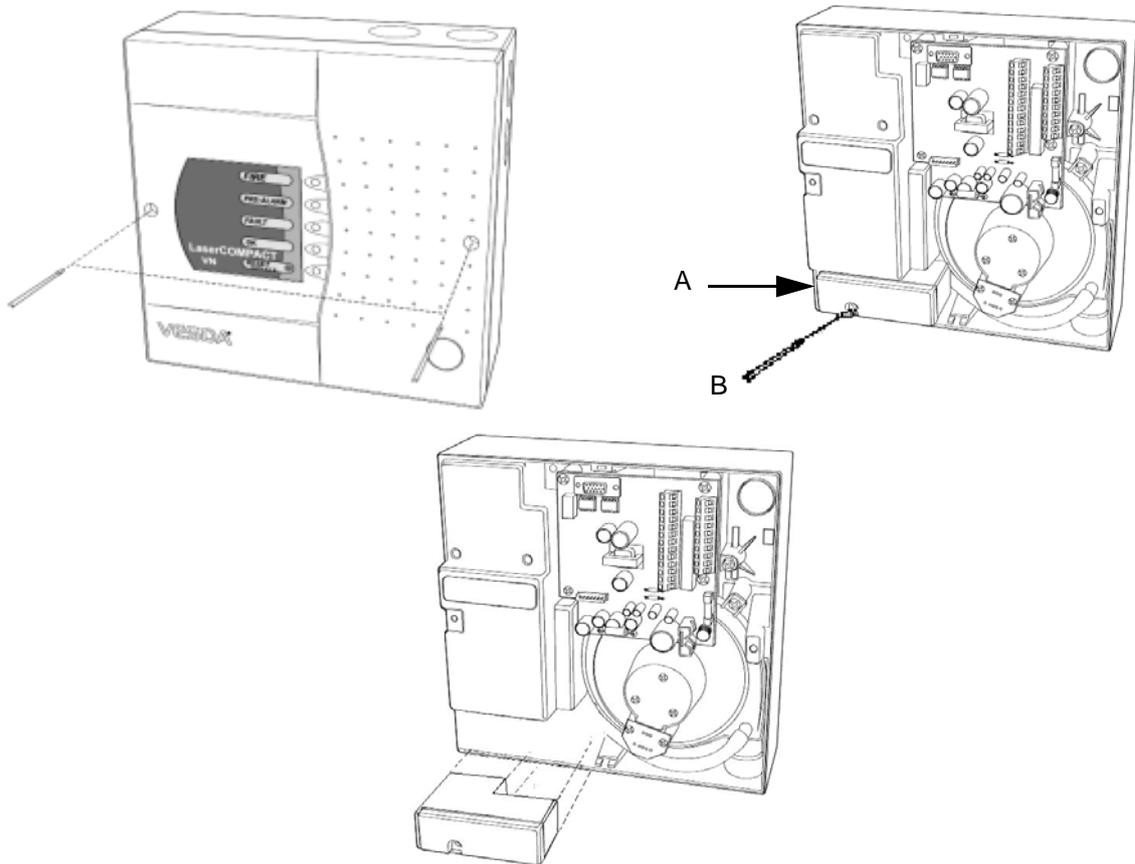

Figure 2: Replacing the air filter cartridge in VLC detectors
2. Locate the air filter cartridge (A), inside the detector compartment, as indicated in Figure 2 below.
3. Undo the recessed phillips head filter screw (B) in Figure 2 below.
5. Insert a new air filter cartridge (A) in Figure 2 above.
6. Tighten the filter screw (B) in Figure 2 above.